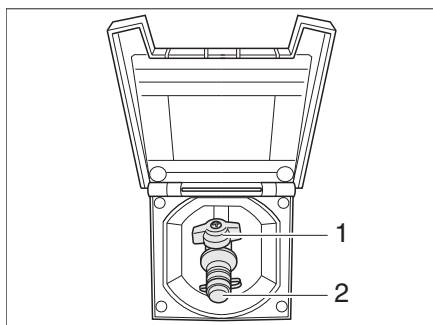

Fig. 209 External gas connection, gas isolator tap closed
The external gas connection (Fig. 209) is located at the right-hand side of the vehicle. In exceptional cases the external gas connection is also located on the left-hand vehicle side or the rear.
- Connect the external gas device to the connection point (Fig. 209,2).
- Open the gas isolator tap (Fig. 209,1).